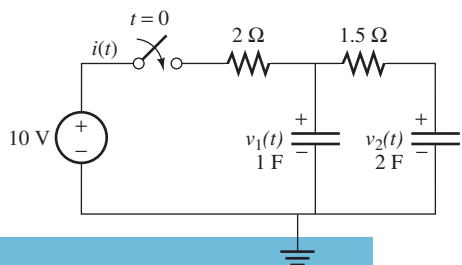

FIGURE P5.47 Circuit for Problem 5.47.
- 5.47 (H) Consider the circuit shown in Figure P5.47. The switch closes at $t = 0$, $v_C(0^-) = 0$ V: